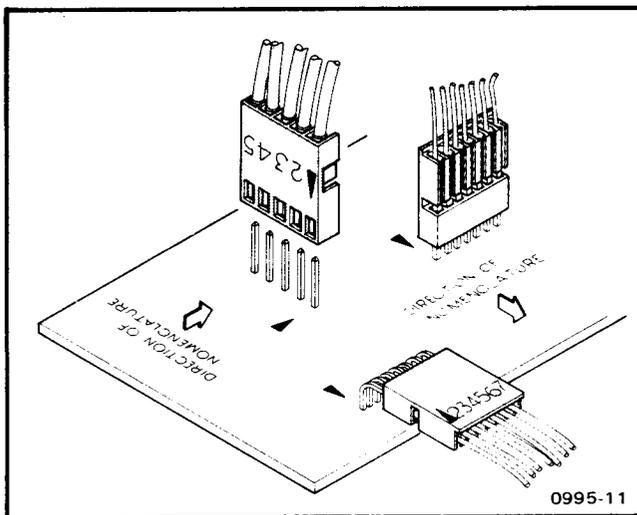

Fig. 5-1. Multipin (harmonica) connector configuration.
**Multiple Terminal (Harmonica) Connectors.** Some inter-circuit connections are made through pin connectors that may be mounted in a harmonica type holder. The terminals in the holder are identified by numbers that appear on the holder and the circuit diagrams. Connector orientation to the circuit board is keyed by triangles on the holder and the circuit board (see Fig. 5-1). In some cases, the triangle or arrow is screened on the chassis adjacent to the connector. Some connectors contain more than one section. Connectors are identified on the schematic and board with a "P" or "J".